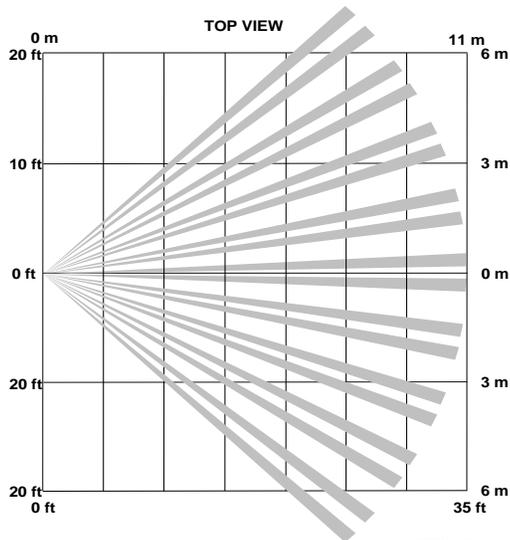

Figure 2. This graph shows the top view of the lens coverage area, for the indoor motion sensor's lens.
- The pet must not be allowed to climb on objects such as furniture, boxes, etc. within the field of coverage. See Figures 2 and 3 to determine the sensor's field of coverage.